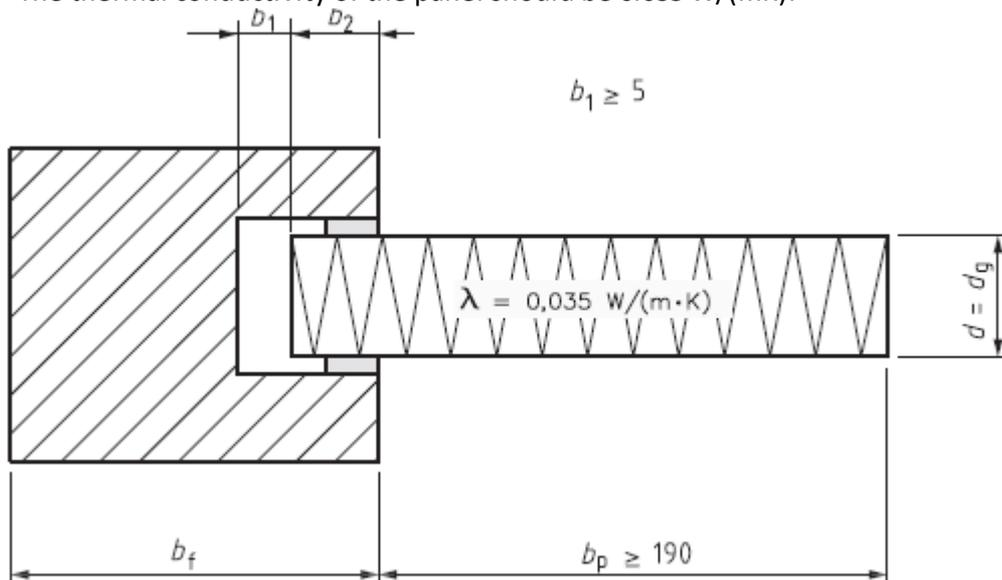

Figure 2
For the calculation of the frame U-value according to the European standard EN ISO 10077-2, the glass unit has to be replaced by a panel (cf. figure 2) with the following characteristics:
- According to EN ISO 10077-1, the measurements  $b_2$  and  $b_p$  should correspond to the larger of the two projected widths of the frame section, without taking into account the stripping between the frame and glass unit or panel (cf. figure 2).